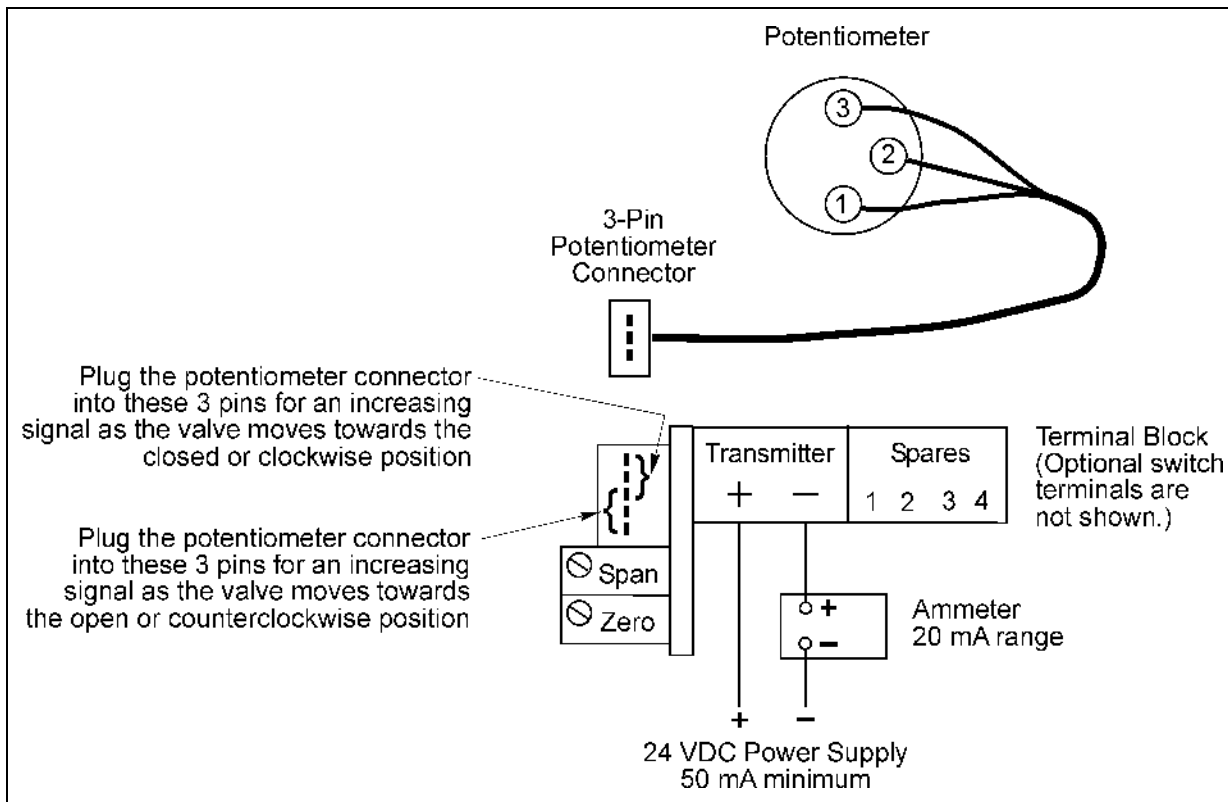

Figure 3—Position Transmitter
The position transmitter provides a 4 to 20 mA output signal with the plus and minus terminals connected in series with an external 24 VDC power supply. Voltage variations from 10 VDC to 40 VDC do not affect the current signal. The maximum load is 700 ohms at 24 VDC. The unit is calibrated as shown in the following steps. Refer to Figure 3 for component identification.
1. Plug the 3-pin potentiometer connector into the appropriate 3 pins on the 5-pin block as described in Figure 3. The 5-pin block is located next to the span adjustment.
4. Connect a 20 mA ammeter and a 24 VDC power supply to terminals + and – as shown in Figure 3.
3. Pull out the spacer (A6) and shaft adaptor (A1) so that the spacer pins are disengaged from the timing holes in the indicator drum (A4). (The shaft adaptor may be a different size and/or shape than shown in Figure 3.)